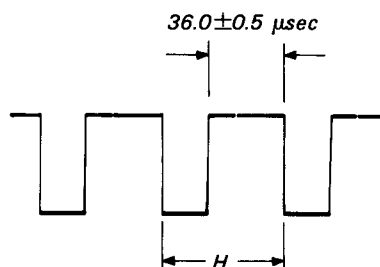

Fig. 7-48.
- 3) By operating CT671, adjust for a $36.0 \pm 0.5 \mu\text{sec}$ cycle time. (See Fig. 7-48)